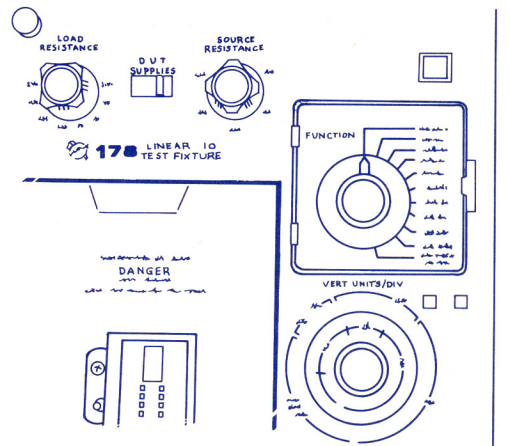

Figure 0-2 Installing nomenclature panel.
- 2) Install AMPLIFIER nomenclature panel on FUNCTION SWITCH. If panel is not in place around FUNCTION switch, install it now. See Figure 0-2. **49**